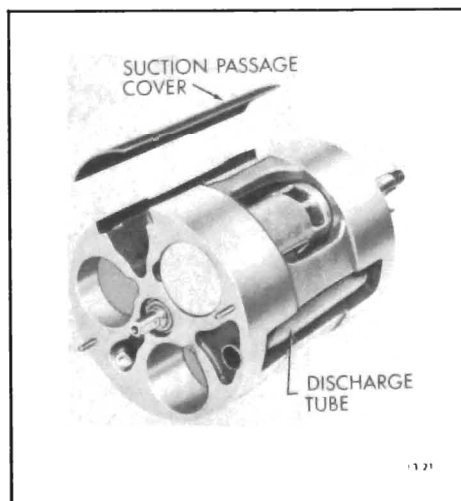

Figure 13-32 Suction Passage and Discharge Tube
8. Suction Passage Cover - The suction passage cover fits over a suction passage (see Figure 13-32) in